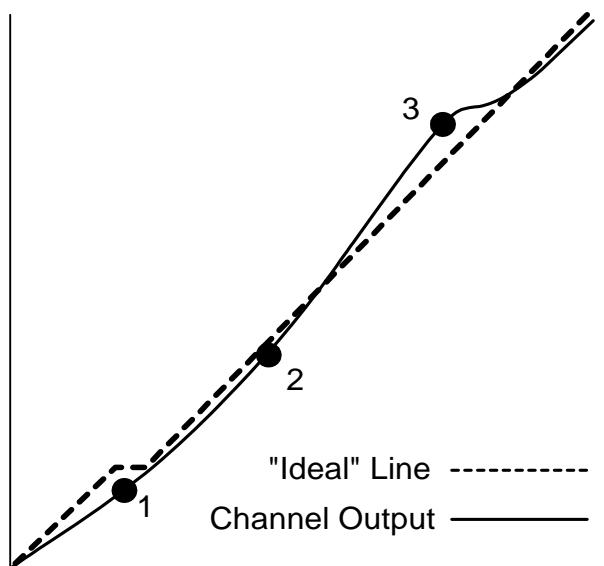

Figure 5. Example RAMP State Decisions
The ramping algorithm keeps the output voltages as close as possible to a calculated “ideal” line, as shown in Figure 5. At each sampling point, the algorithm compares the output voltage to the “ideal” line and decides whether
to hold or increment the output voltage and the ideal line. Figure 5 shows that the output voltage for a single channel can be much lower, slightly lower, or higher than the “ideal” line.
**Case 1.** The output voltage is much lower than the “ideal” line (see Point 1 in Figure 5). **Action Taken.** Increase output voltage and hold the ideal line.
**Case 2.** The output voltage is slightly lower than the “ideal” line (see Point 2 in Figure 5).
**Case 3.** The output voltage is higher than the “ideal” line (see Point 3 in Figure 5).
Figure 8 shows program flow in the *ADC0\_ISR* when the system is in the RAMP state. The *ADC0\_ISR* handles tracking and ramping decisions made while the outputs are rising. These decisions are shown in Figure 5 and Figure 6 and explained on page 3.